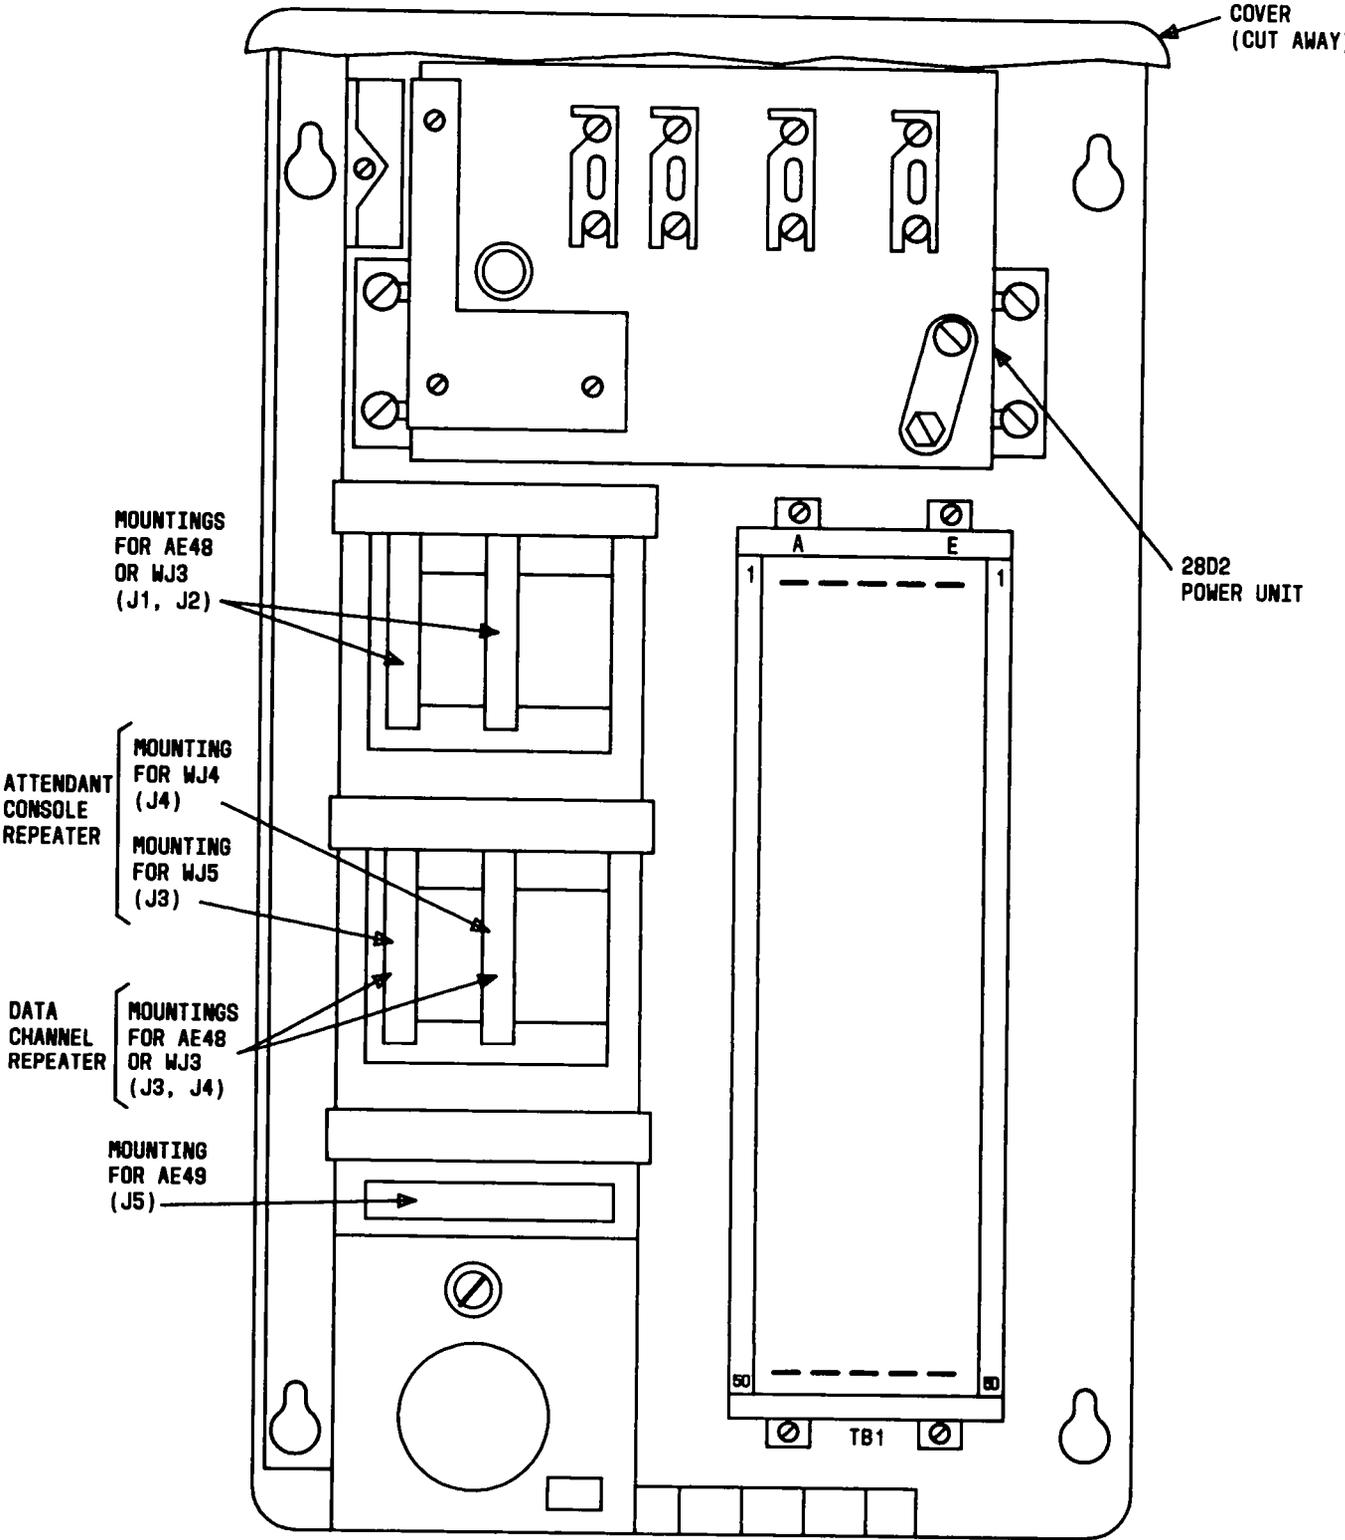

Fig. 14—Repeater
6.05 The attendant console repeater unit (Fig. 14) provides range extension and/or lightning protection for the PBX low-speed data channels, as well as the alarm, ground, and -48 volt leads. The console power is furnished by an external supply located at the console end repeater. The power supply (284B1 power unit) must be ordered and mounted separately from the repeater unit. The repeater may be used in one of two configurations as follows: